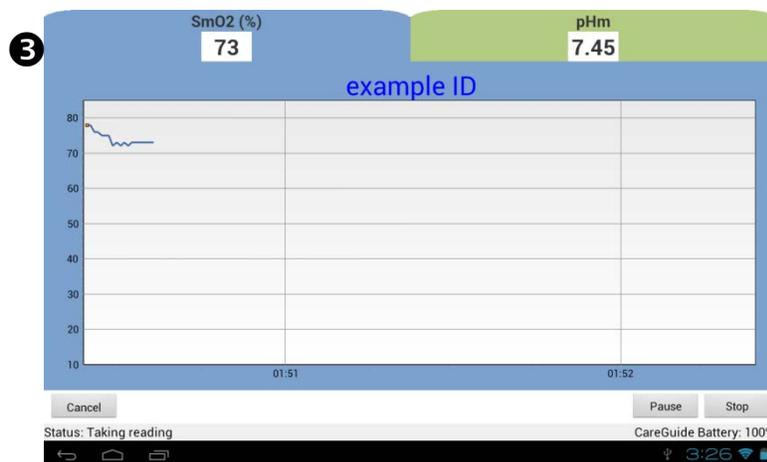

Figure 19. Monitoring Screen
- 3 Monitoring begins, and SmO₂ and pHm data are displayed (Figure 19 ③).